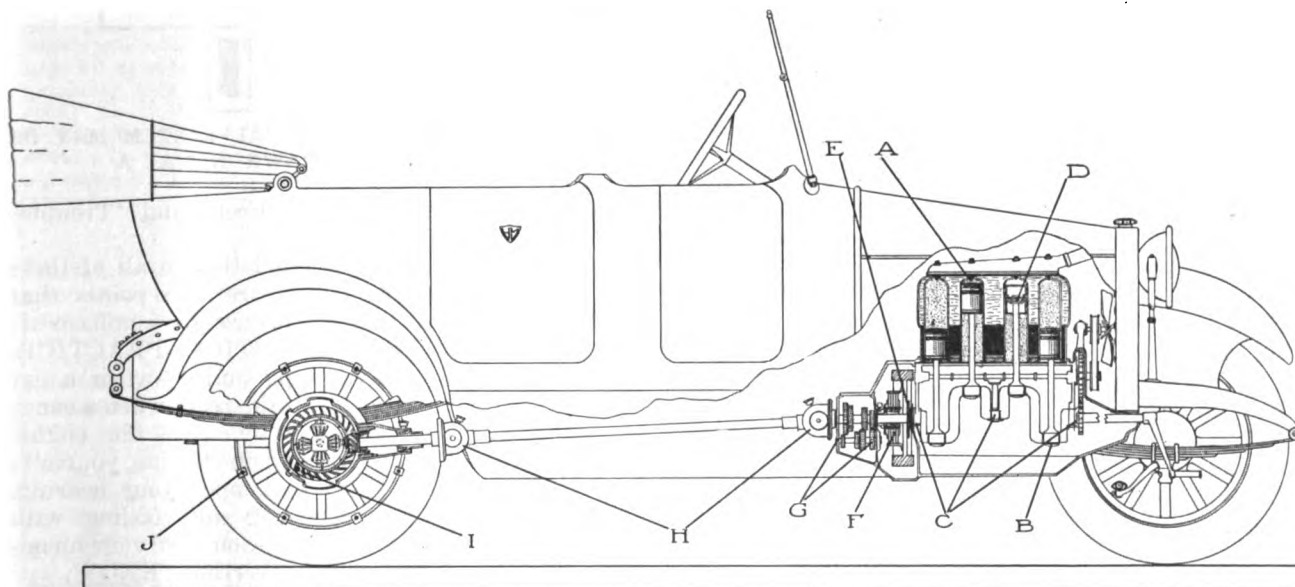

FIG. 1—CHART SHOWING LOCATION OF "TROUBLES WE HEAR"—KNOCKS AND POUNDS
2. *Pre-ignition*: This has two distinct causes—(a) Carbon in the cylinder and (b) Hot Engine. Here the explosion takes place before the spark occurs. Carbon in the cylinder accumulates above the piston in the explosion chamber. See Figure 1 at A. It heats up readily and explodes the gas as it is being compressed. It may be caused by too much oil, an inferior grade of oil or too rich a mixture of gasoline vapor from the carburetor. Oil sometimes gets past the pistons if there happens to be too much in the base of the engine, or if the pistons or rings are badly worn. Less oil or the use of a heavier grade of oil, or some of the modern leak-proof pistons may help out.
3. *Connecting-Rod Bearing Loose:* (B—Fig. 1) This knock is most pronounced when the engine is under load and running at lower speeds. It sometimes disappears altogether when engine is running at high speeds. With engine running slowly, short-circuit each spark plug with a screw driver and you will easily determine which or how many connecting rods are loose. If the bearings are very much loose it will be necessary to "blue" the crank shaft with a touch of prussian blue on the finger tip and "spot in" the bearing by putting in place on the shaft. The high spots on the bearing can then be seen and scraped down until a fine bluing shows a speckled or evenly mottled appearance. The bearing can then be adjusted to fit nicely when the nuts are firmly tightened. It will be necessary to remove shims or face-off the bearing
4. *Loose Crank-Shaft Main Bearing:* (C—Fig. 1) This knock is not as easy to locate as that of the connecting-rod knock. The method of fitting and adjustment is similar to that used for connecting-rods, excepting that each bearing must be adjusted separately with the other bearings loosened. Adjust these bearings so that the tightness is just barely felt.
5. *Piston Pin (wrist-pin) Loose in Piston:* (D—Fig. 1) Locate by the same method as outlined for Connecting-rod Bearings. New bushings, new pins and in some cases new pistons altogether are necessary to remedy this trouble.
7. *Flywheel Loose:* A very elusive knock. One tries to look every other place in the car before discovering that a few bolts are loose at E—Fig. 1.
8. *Clutch Coupling or Parts Worn:* This will cause a knock that would be almost taken for a tapping, unless the parts are badly worn, when a very distinct knock will be heard. Remedy, replace worn parts. (F—Fig. 1)
9. *Transmission Bearings Worn:* If ball bearings are used, a split in one or more of the balls will cause a knocking sound. (G—Fig. 1)
10. *Universal Joints Worn:* These often cause a knocking noise when the car is under power. It takes the form of a clank and rattle as the car passes over rough pavements. Replace the parts worn. (H—Fig. 1)
12. *Small piece of metal between teeth of gears:* This will cause a knocking sound in the rear axle. (I—Fig. 1)
13. *Demountable Rim Loose:* Tighten the bolts. (J—Fig. 1)